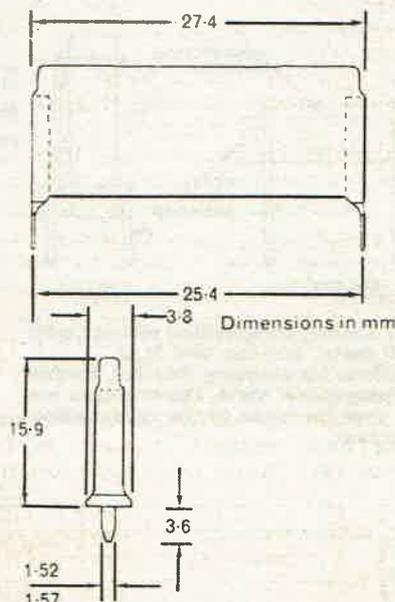

Fig.5. Example of fusible-type of thick-film resistor.
**Thick-film resistors** are a special type of film resistor. They are generally constructed by depositing the resistive material on a ceramic or aluminium-oxide substrate. A portion of the film coating is then removed, according to a predetermined pattern, to provide a long resistive path between the resistor terminals. Typical construction of one style of thick-film resistor is illustrated in Figure 5. This style is obtainable as a 'fusible' resistor. When overloaded, the substrate cracks, ensuring an open circuit which reduces the possibility of further circuit damage, physical or electronic. These thick-film resistors occupy a minimum of space on a printed circuit board and can dissipate considerable power owing to their large surface area and high hot-spot temperature (150°C).